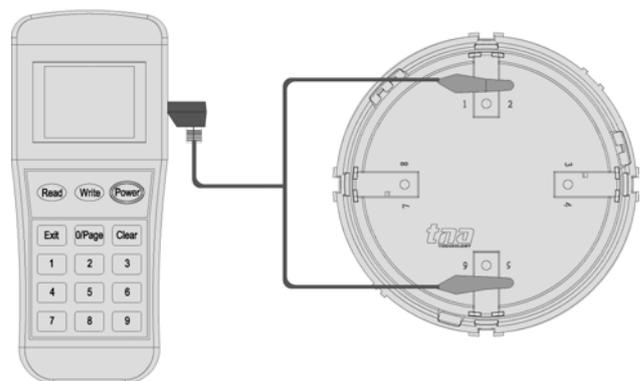

Fig.5 Connection of programming tool and Addressable/Conventional
1. Connect the programming cable to Z1 and Z2 terminals, as shown in Figure 5. Press **"Power"** to switch on the unit. The main menu after the boot as shown in Figure 6.